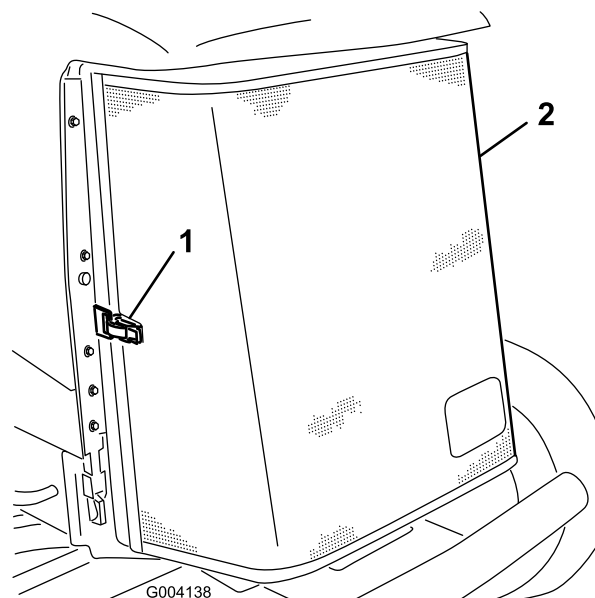

Figure 61
3. Unlatch the clamp and pivot open the rear screen (Figure 61).